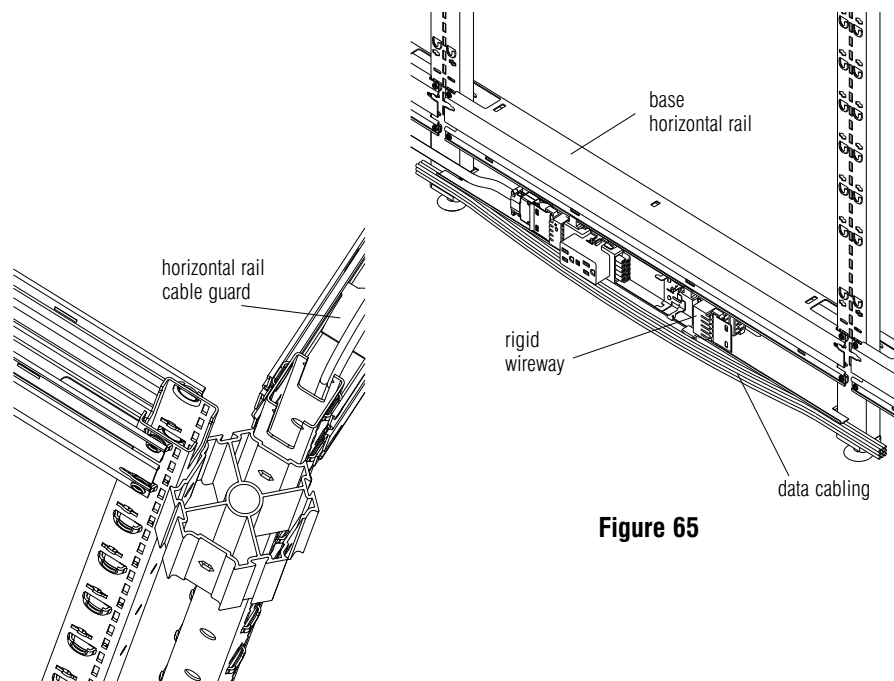

Figure 65
2. Lay the cables in the raceway as required. **Figure 65.** Using one hand, close the raceway door and it will snap into place.